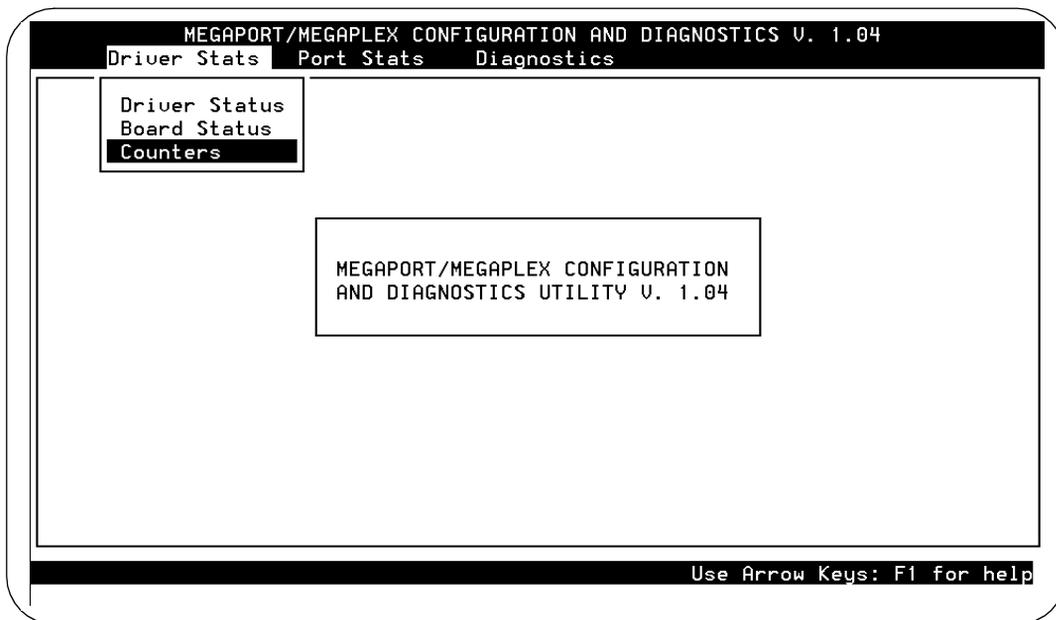

Figure 2-25. Megaport and Megaplex Configuration and Diagnostics Screen
The system displays the Megaport and Megaplex Configuration and Diagnostics screen (Figure 2-25). This screen contains a menu bar with the options Driver Stats, Port Stats, and Diagnostics.
1. Starting at the Megaport and Megaplex Configuration and Diagnostics screen (Figure 2-25), select
- Starting at the Megaport and Megaplex Configuration and Diagnostics screen (Figure 2-25), select